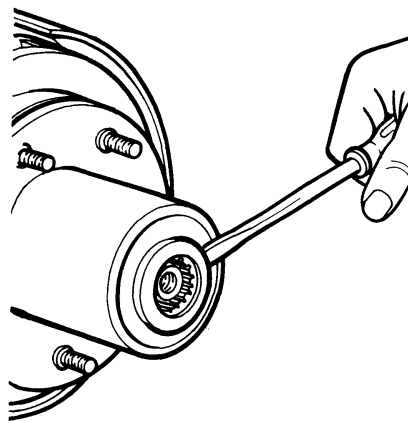

FIG. 2 Removing Splined Driving Hub
3. Remove the splined driving hub and the pressure spring. This may require a slight prying assist (Figs. 2 and 3).
5. Using Tool T59T-1197-B and a torque wrench, tighten the bearing adjusting nut (Fig. 2, Part 11-02) to 50 ft-lb, while rotating the wheel back and forth to seat the bearings.